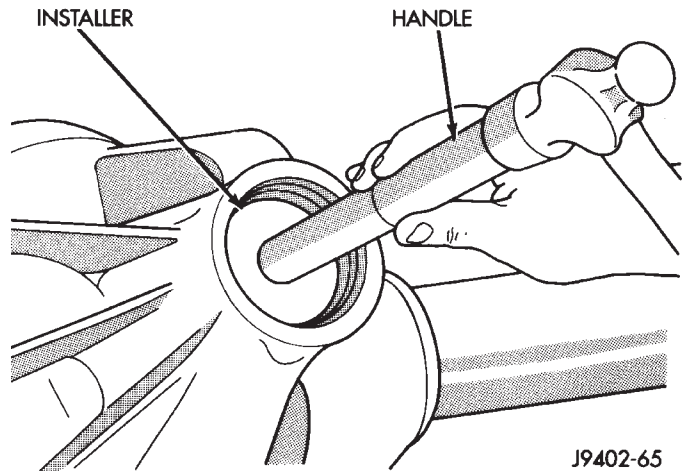
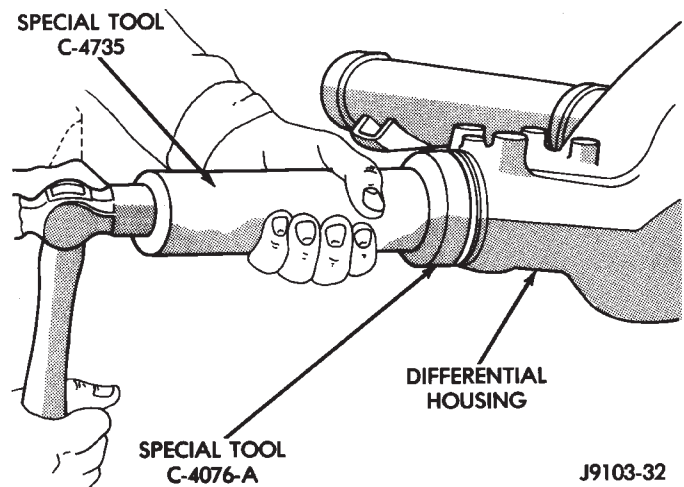

Fig. 33 Pinion Front Bearing Cup Installation
Fig. 34 Pinion Seal Installation—8 1/4 Axle
(3) Apply Mopar® Door Ease, or equivalent, stick lubricant to outside surface of bearing cup.
(4) Install the pinion front bearing cup (Fig. 33) with:
(5) Install pinion front bearing, and oil slinger, if equipped.
(6) Apply a light coating of gear lubricant on the lip of pinion seal. Install seal with:
- Installer C-4076-B and Handle C-4735-1 for the 8 1/4 axle (Fig. 34).